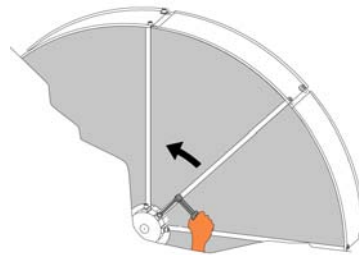

Figure 15
- Remove the spacer discs; tighten opposite socket screws evenly segment by segment (Figures 15 and 16). Always make sure the rotor can turn freely!